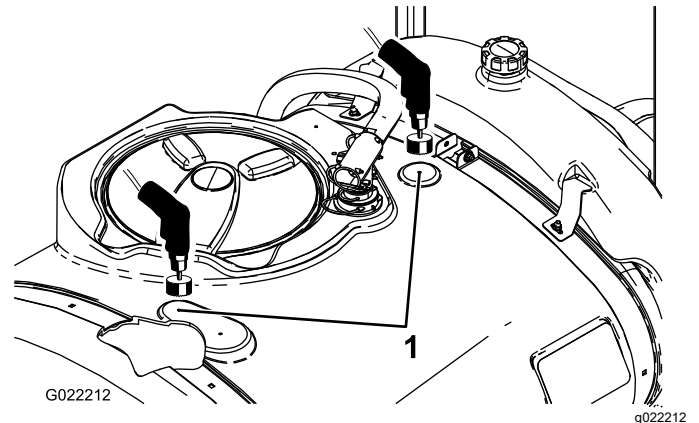

Figure 16
2. Locate the 2 drill marks on the main tank (Figure 16).